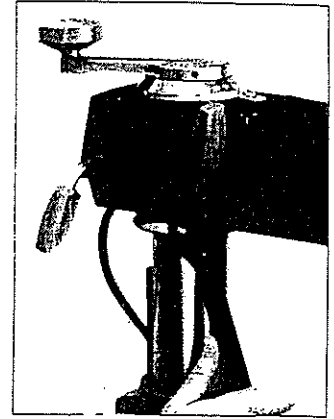

Fig 11
- (iii) Release the mitre latch and depending on which way the arm needs to move to give the true 90° crosscut required, loosen and tighten the adjusting flanges on either side of the arm (Fig. 11) if the front of the arm needs to go to the left, loosen the adjusting flange on the right of the arm and tighten the flange on the left. If the opposite is the case, and the arm needs to move to the right, loosen the adjusting flange on the left and tighten the flange on the right. Adjust the flanges a little at a time and re-engage the mitre latch and clamp and check the crosscut travel of the blade relative to the fence with a square. Do not overtighten the adjusting flanges or the mitre latch will be too stiff to operate easily.